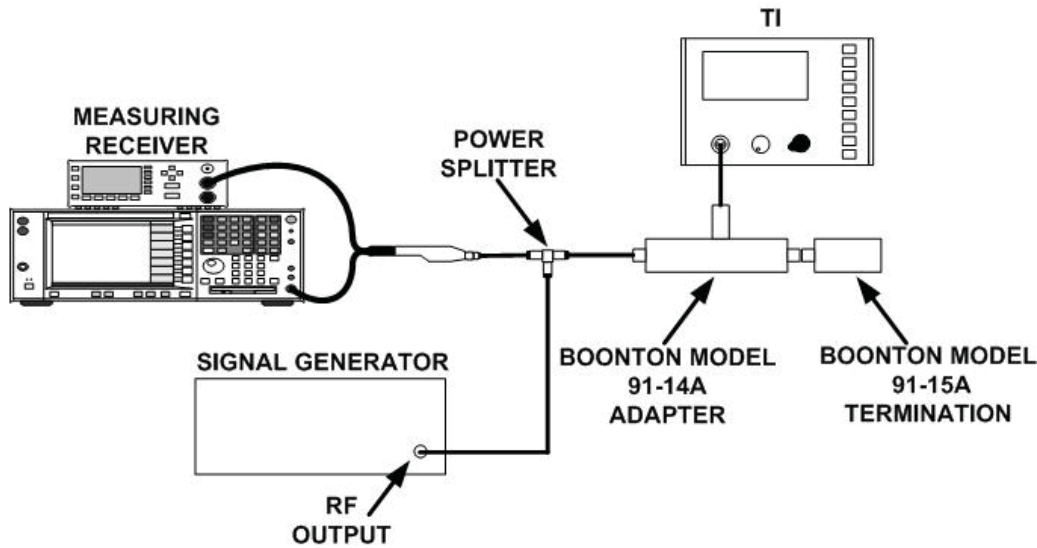

Figure 4. Frequency response - equipment setup.
(25) Disconnect TI probe from calibrator.
(26) Connect equipment as shown in figure 4.